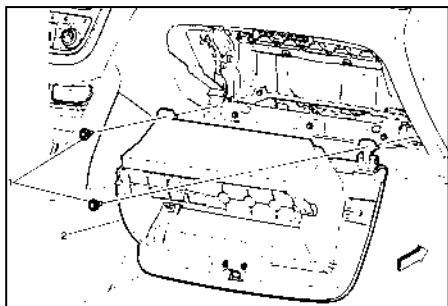

Fig. 15
2. Disconnect glove compartment dampener from compartment assembly (see Fig. 15).